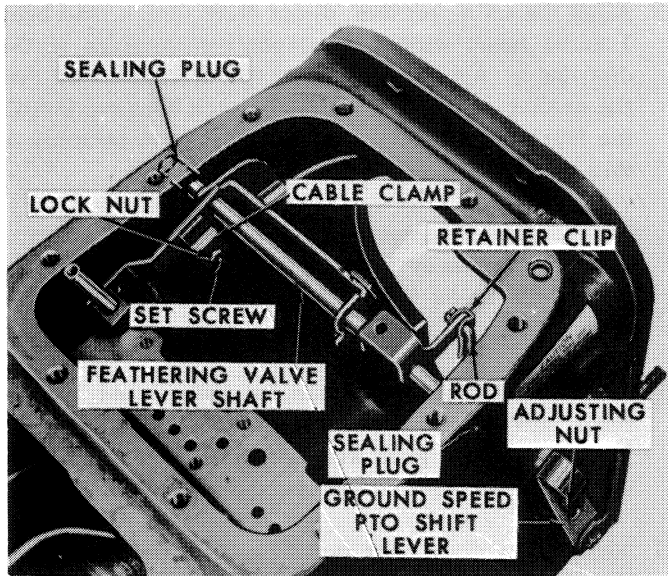

Figure 56
22. Remove the roll pin that secures the inching pedal to the shaft and remove the pedal. Remove the upper and lower cotter keys and retaining clips from the inching pedal rod. See Figures 56 and 57. Remove the rod and the pedal shaft assembly from the case.
2. Install the inching pedal shaft with “O” ring in the left side of the transmission case. Install the control rod with the retainer clips and cotter keys to the rocker shaft and to the pedal shaft. See Figures 56 and 57.